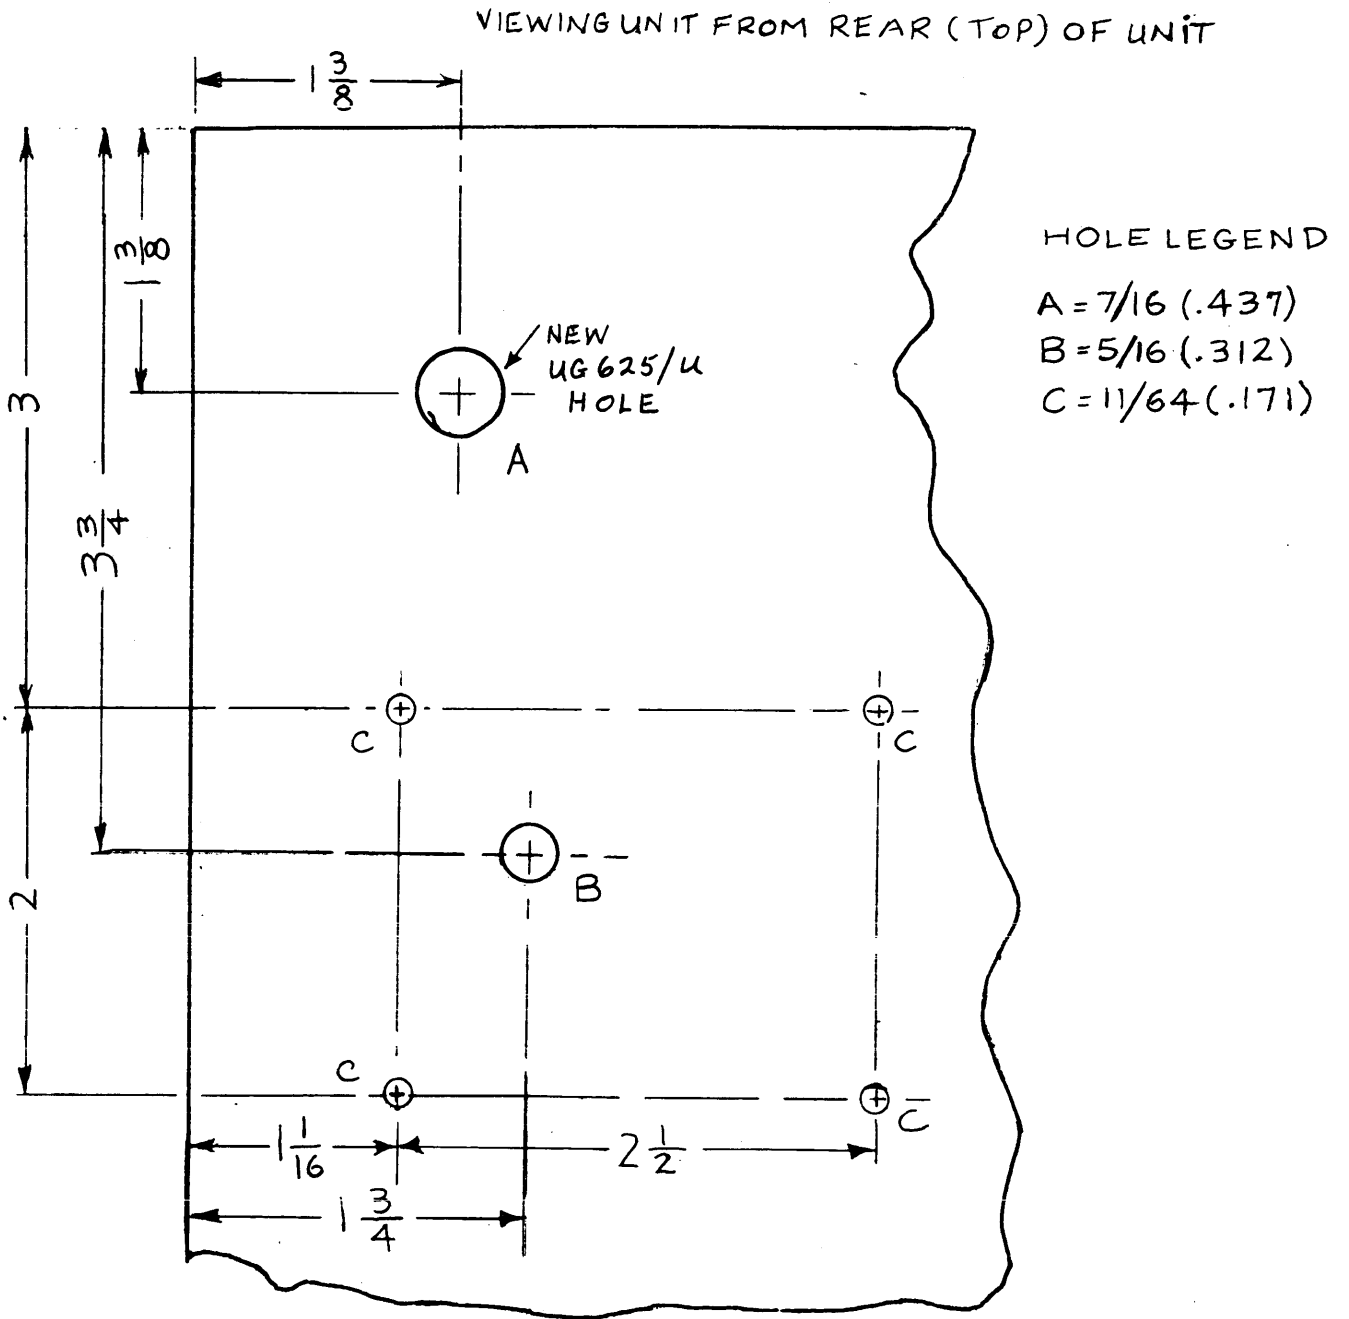
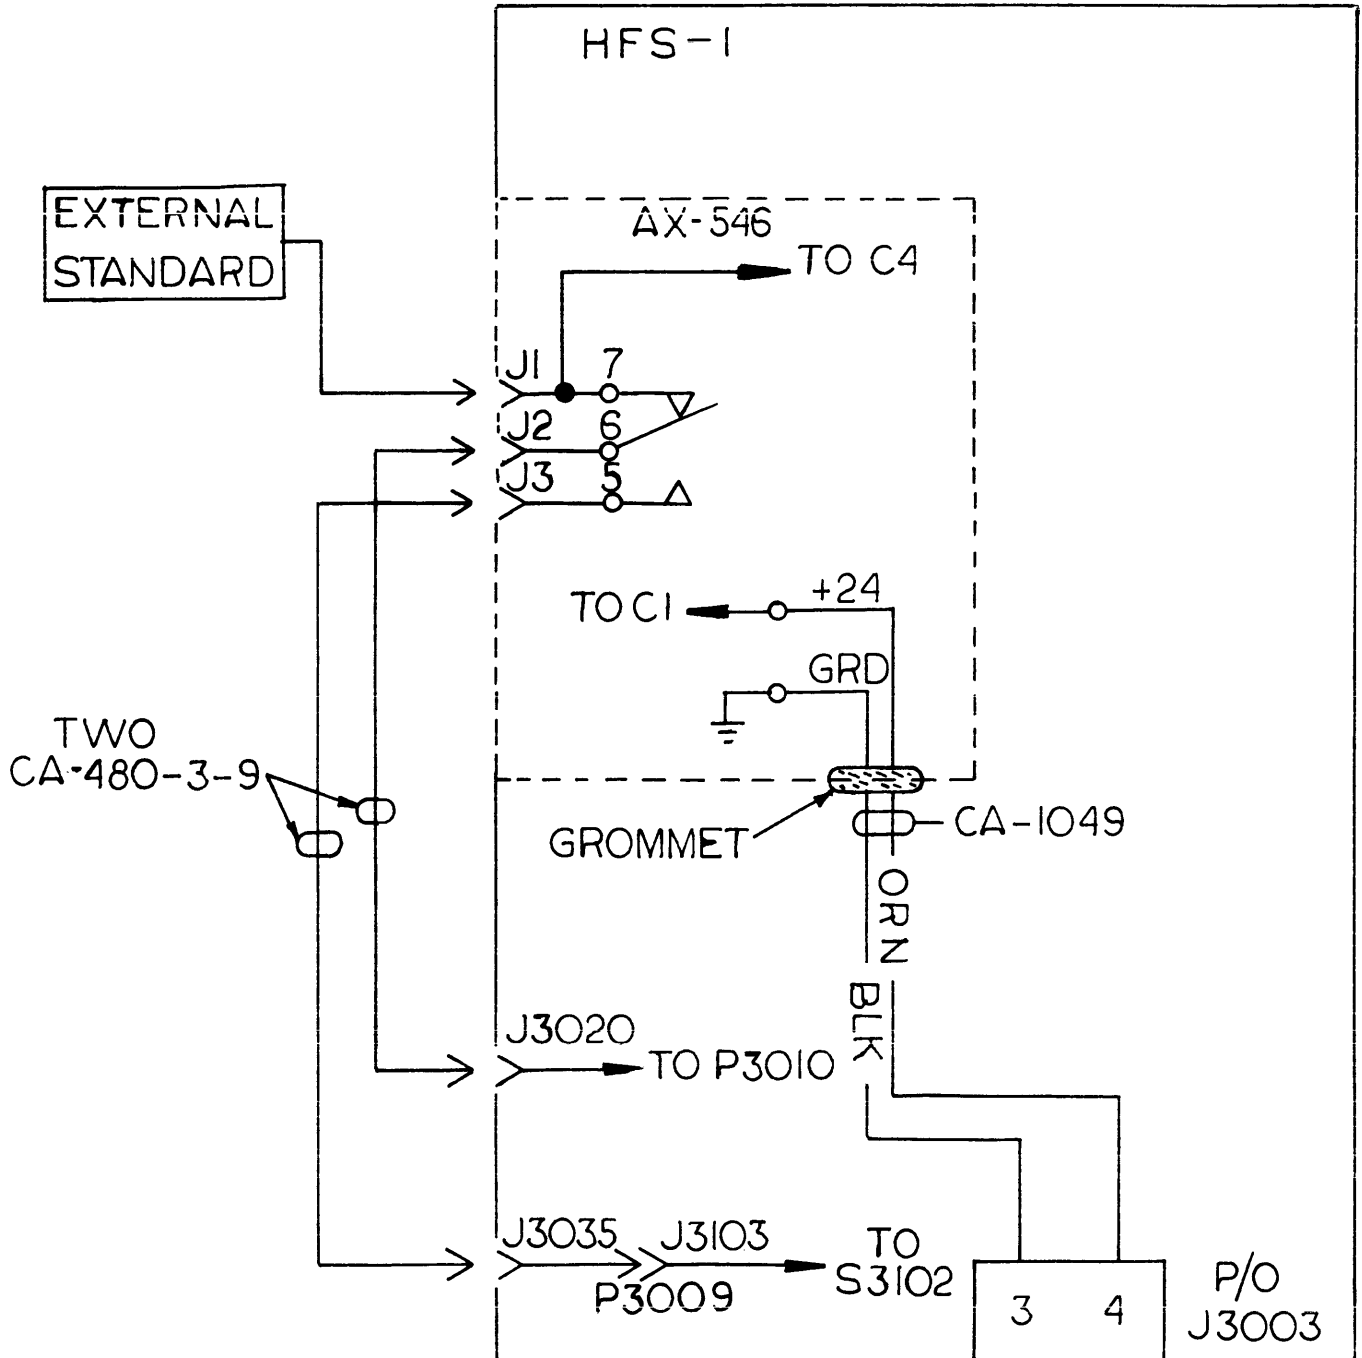

Figure 1. Rear Panel of HFS.
Figure 2. Modification, Cabling Diagram
7. Use electric drill (item 6, table 2) and 7/16" drill bit (item 9, table 1), to drill 7/16" hole in HFS chassis as shown in figure 1.
8. Mount BNC jack (item 2, table 1) in hole drilled in step 7.
9. Use stamp kit (item 12, table 1) to mark HFS chassis below jack mounted in step 8 as follows: J3035.
14. Use 11/64-inch drill bit (item 11, table 1) and electric drill (item 6, table 2) to drill four 11/64-inch holes in HFS chassis as shown in figure 1.
15. Use 5/16-inch drill bit (item 10, table 1) and electric drill 5/16-inch hole in HFS chassis as shown in figure 1.
16. Press grommet (item 3, table 1) into hole drilled in step 15.
17. Solder one end of cable CA-1049 (item 8, table 1) to relay switch assembly AX-546 (item 1, table 1), see figure 2 , as follows:
21. Solder free end of CA-1049 to jack J3003, see figure 2, as follows:
25. Connect one end of cable CA-480-3-9 (item 13, table 1) to jack J3020; connect other end of cable to AX-546 OUT jack J2.
26. Connect one end of cable CA-480-3-9 (item 14, table 1) to jack J3035 (installed in step 8); connect other end of cable to AX-546 INT STD IN jack J3.
27. Using number 48 drill bit (item 16, table 1), electric drill, and using identification plate (item 15, table 1) as a template, drill four number 48 holes directly below existing identification plate.
28. Use screws (item 17, table 1) to mount identification plate (item 15, table 1) below existing identification plate.